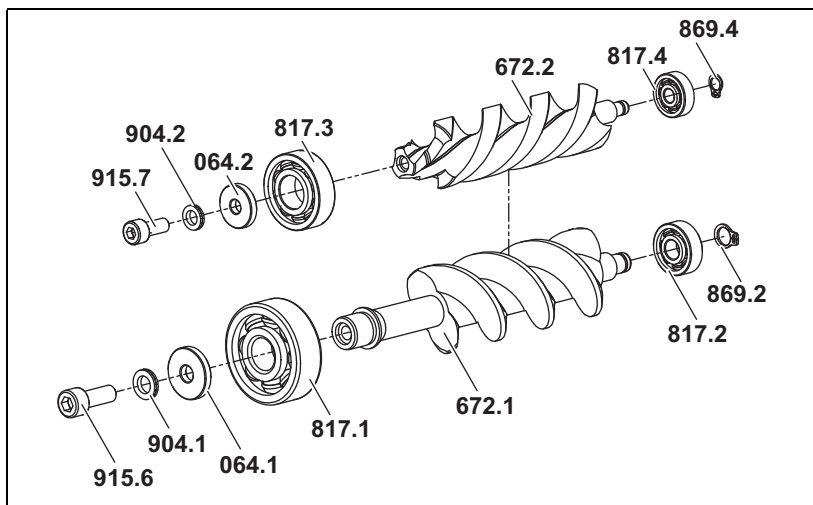

Fig. 10
4. Remove the circlips **869.2** and **869.4** from the measuring screw large and measuring screw small. Overview see Fig. 10, page 32.
3. Pull the wedge lock washers **904.1** and **904.2** and support rings **064.1** and **064.2** onto the sockets screws **915.6** and **915.7**. Overview see Fig. 10, page 32.